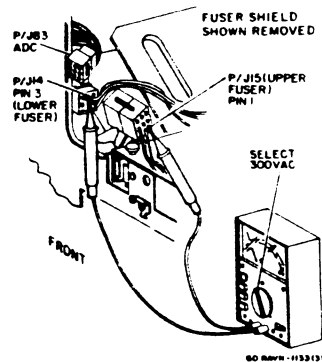

Figure 4. Measuring the Line Voltage
6. MEASURE THE LOADED LINE VOLTAGE, WHEN FUSER LAMP HAS BEEN LIT FOR 1 SECOND (FIGURE 4).